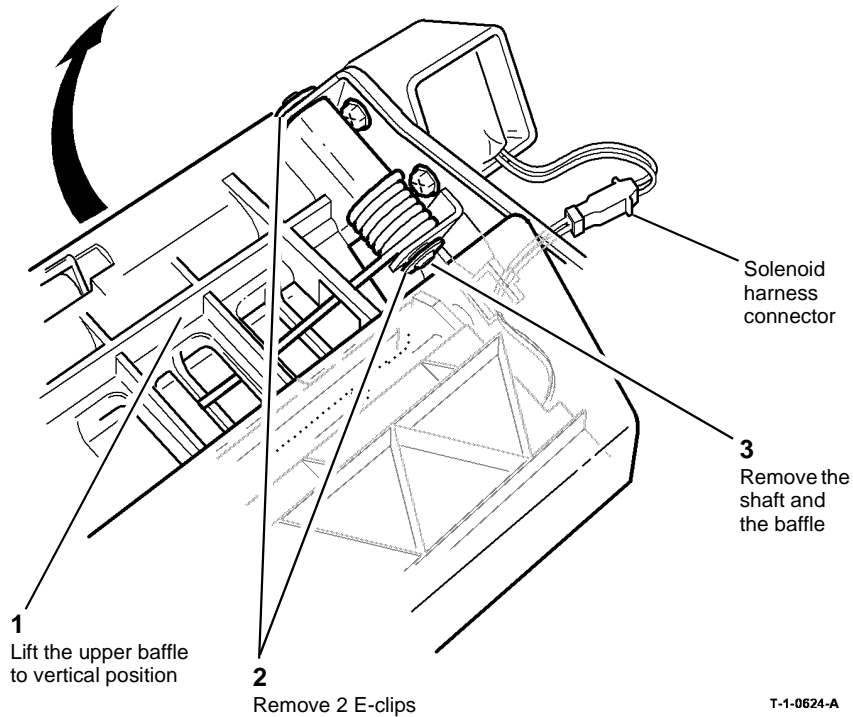

Figure 1 Upper baffle assembly
- (35-55 ppm). Complete the procedure in Figure 1.
- (65-90 ppm). Remove the inverter sensor, REP 10.20. Then complete the procedure in Figure 1.
2. Check that the solenoid harness connector is located at the rear of the inverter frame, refer to Figure 1.